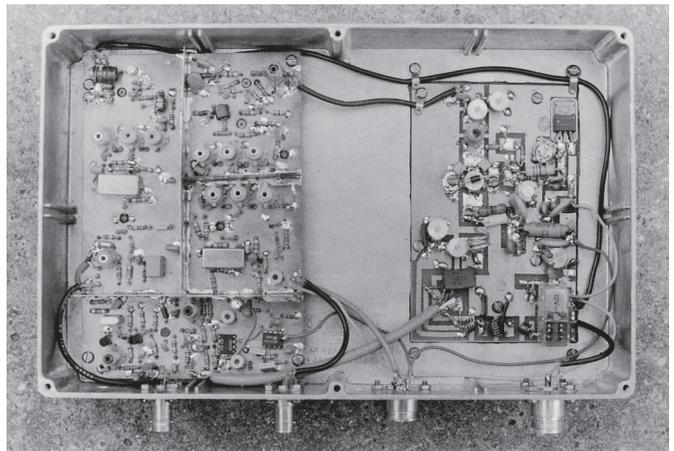

Fig. 9.31. Photograph of a prototype *Cray* transverter assembled in a die-cast box
I chose to mount the whole transverter in a large die-cast box (Fig. 9.31) although a more conventional type of case would be equally suitable. Before inserting any components on the transverter and PA boards, their mounting holes (indicated by the letters 'H' in Figs 9.29 and 9.33) should be drilled in the case using the bare boards as templates. Further details of mounting the PA board and components are given later.
9.30. The MMICs have their ground leads bent upwards and soldered to the top surface of the board. Both of the SBL-1 mixers are then soldered in place, the 'M' in the 'MCL' label on the can being over pin 2. The cans of the mixers should also be soldered to the top of the board; do this quickly using a large, hot iron. Wire links are required to join the top and bottom surface on the transverter board as indicated by the letters 'X' in Fig. 9.31. To improve stability, RFC8 is soldered between the two relevant copper pads on the track side of the board. The board is mounted in the box on four 8mm M3 metal spacers.